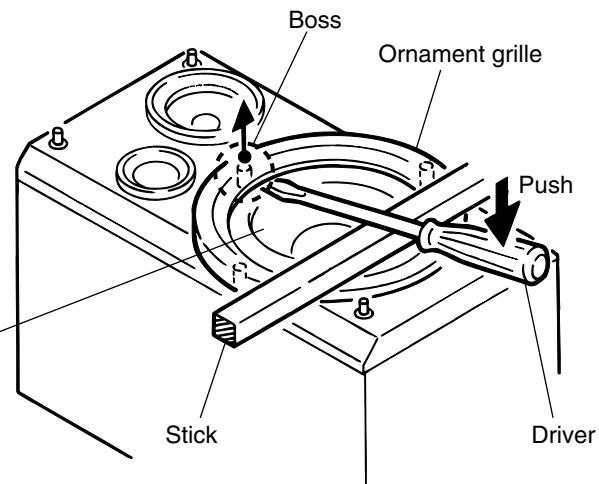

Fig.2
- Pull out the ornament grille with each boss by means of a lever as shown in Fig.2.